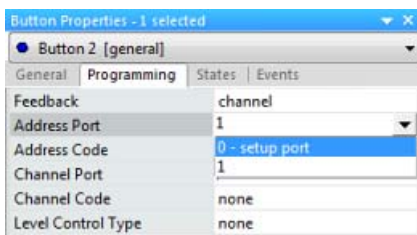

FIG. 408 Address Port: 0 - Setup Port
3. Select **0-setup port** from the drop-down menu (FIG. 408):